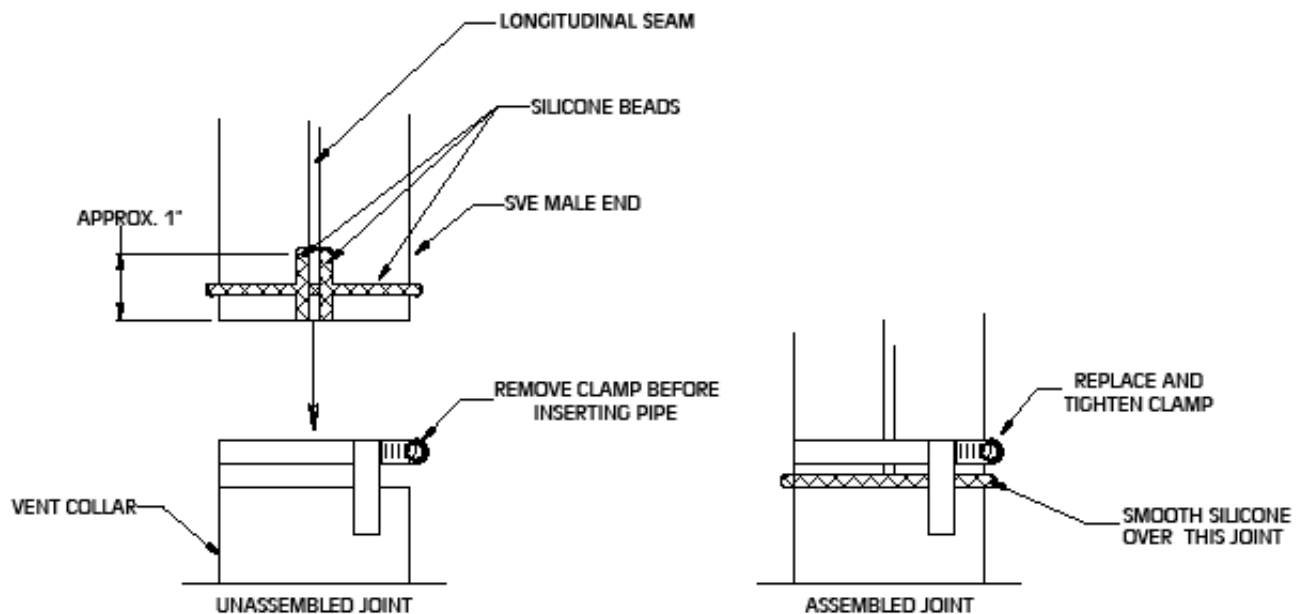

Figure 7.18: Z-Vent III Connection to Vent Collar
- d) On the male end of the pipe, apply a ¼" wide bead of high temperature silicone approximately ½ inch from the male end of the pipe. Apply ¼" beads of silicone along both sides of the longitudinal seam (Fig. 7.18).